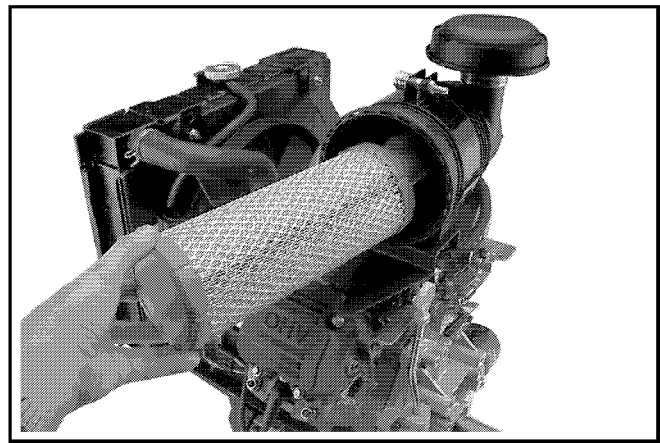

Figure 15. Removing Air Cleaner Element.
2. Pull the air cleaner element out of the housing. See Figure 15.